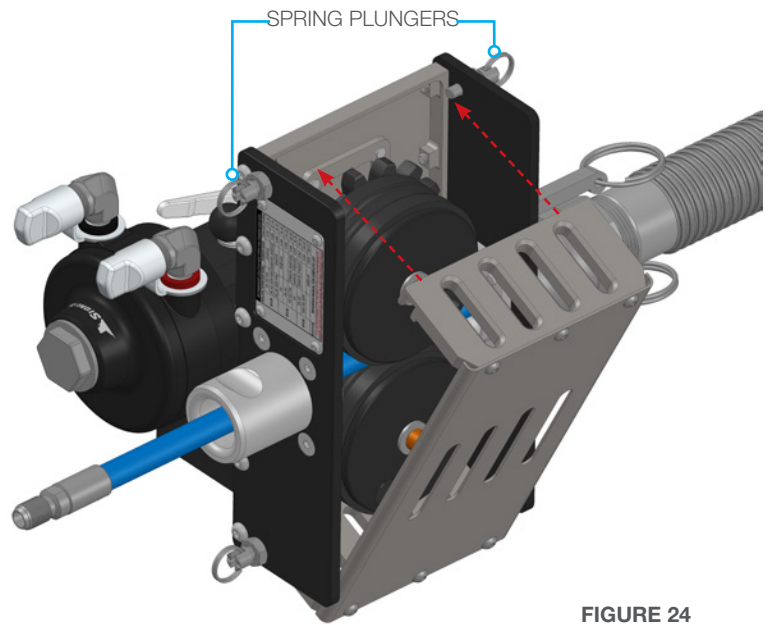

FIGURE 24
5. Push the back cover back into the closed position and secure the two Spring Plungers on the top of the ABX-PRO Tractor. **(Figure 24)**